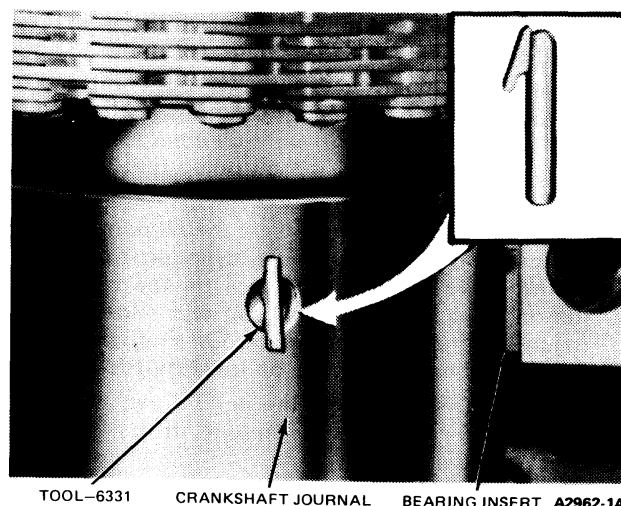

FIG. 38 Removing or Installing Upper Main Bearing Insert
4. Insert the upper bearing removal tool (Tool 6331) or equivalent in the oil hole in the crankshaft (Fig. 38).
3. To install an upper main bearing, place the plain end of the bearing over the shaft on the locking tang side of the block and partially install the bearing so that Tool 6331 or equivalent can be inserted in the oil hole in the crankshaft (Fig. 38). With Tool 6331 or equivalent positioned in the oil hole in the crankshaft, rotate the crankshaft in the opposite direction of engine rotation until the bearing seats itself. Remove the tool.